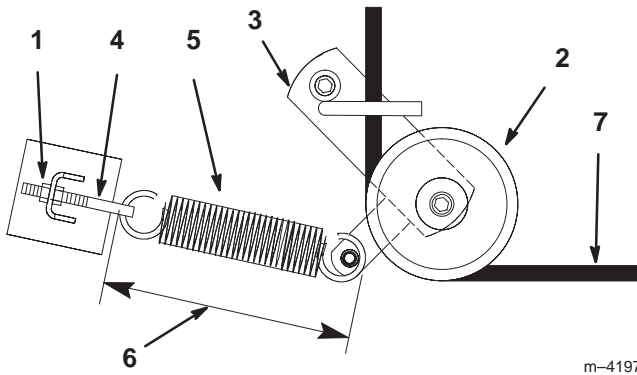

Figure 43
4. Loosen the outer nut on the spring eye bolt (Fig. 43).
6. Remove the spring loaded idler pulley (Fig. 43).
7. Route the new belt through the idler arm (Fig. 43).
9. Tighten the outer nut on the spring eye bolt (Fig. 43).
Note: Check the spring length. The spring should measure 9-3/8 in. ± 1/8 in. (238 mm ± 3 mm) when installed with the height-of-cut set at 3 in. (76 mm). Adjust it if it does not (Fig. 43).